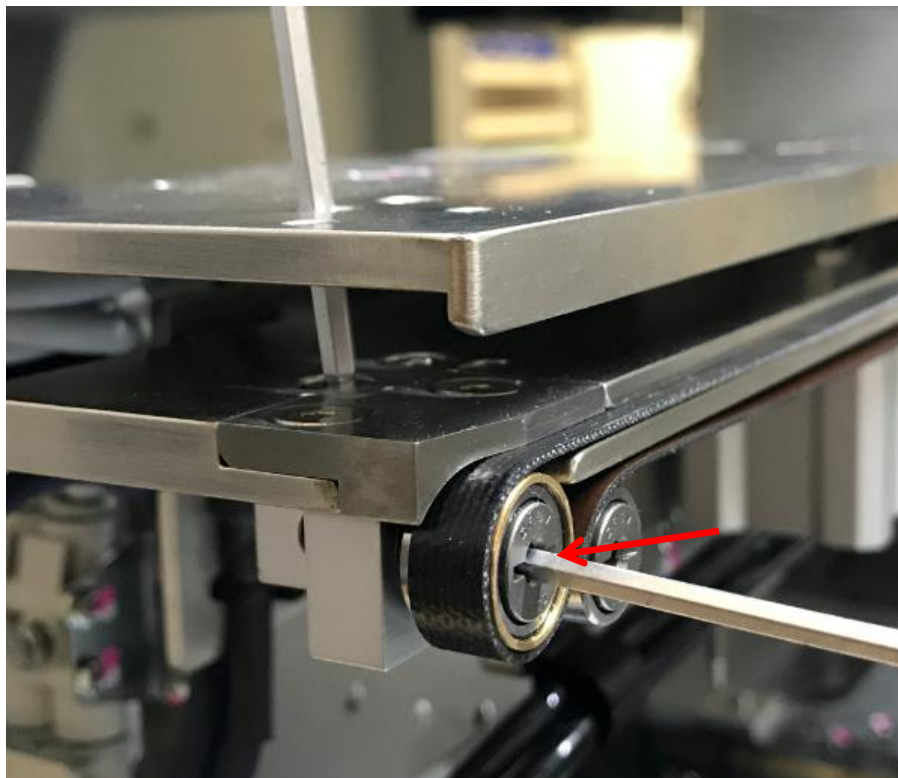

Figure 46 End Pulley Assembly
- d) Insert Allen Key to End Pulley as below Figure 46